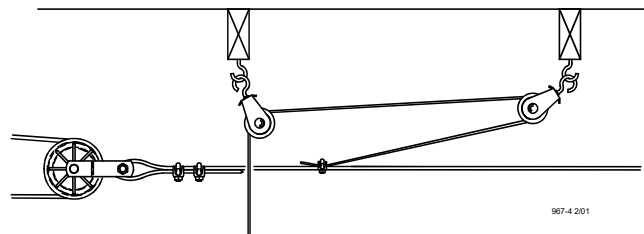

Figure 17. "Throwback" cable arrangement
4. Allow enough cable length for installation of the Adjustment Leveler. Sufficient cable is included to provide "throwbacks" on drops located beneath and near the winch. Figure 17 shows a "throwback" cable arrangement.